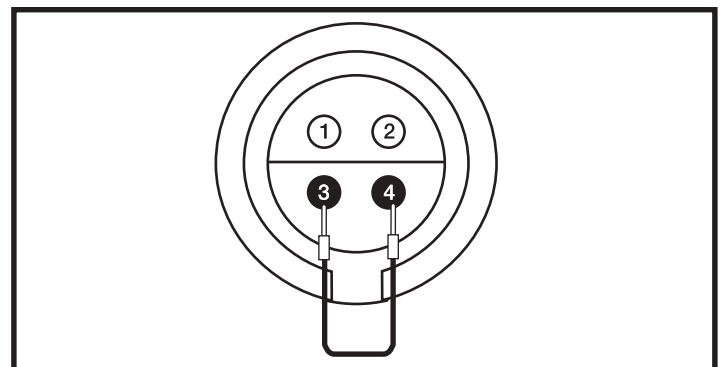

Figure 14. Connector 4a
3. Place a jumper between pin 3 and pin 4 of connector 4a. **See figure 14.**